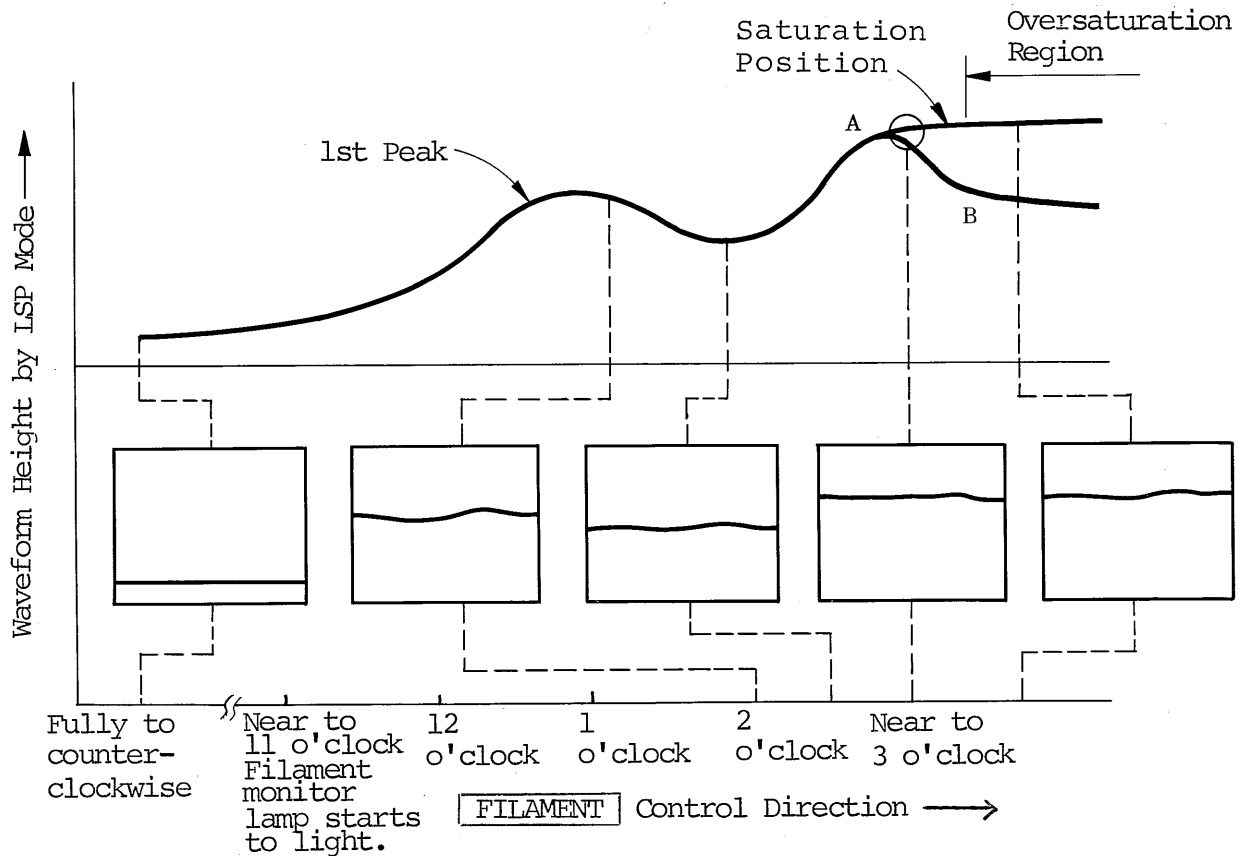

Fig. 6.3-8 Setting FILAMENT Control
- ① Ensure that it is near to the ideal curve in Fig. 6.3-8.
- ② While monitoring the waveform on CRT screen, return FILAMENT control slightly counterclockwise and set it to the position just before the waveform starts a drastic drop (position just lower than saturation point: Position A in Fig. 6.3-8).
- ① Set the control so as not exceed 0.7 (140 $\mu$ A).
- ② Clean up Wehnelt cap if fluctuation is recognized. Here, if the filament has whiskers, replace it with new one (the whiskers can be seen with loupe 15X).
3. As in B of Fig. 6.3-8, if waveform lowers by turning around 3 o'clock, it shows insufficient alignment. For solution, turn FILAMENT control a little past 3 o'clock and perform re-alignment.